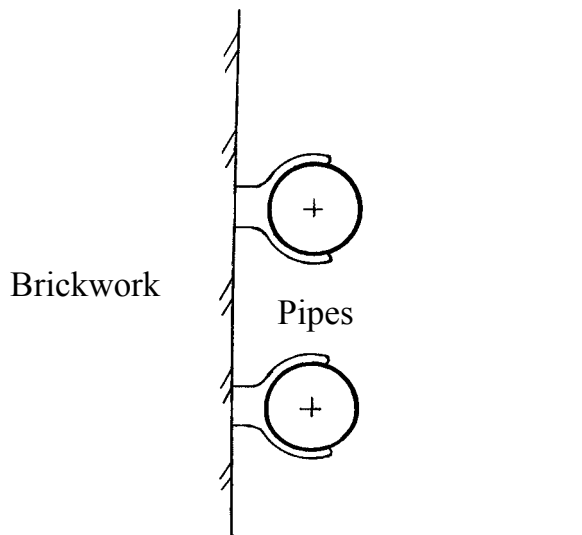

Fig. 3
13. Complete Fig. 3 to show a method of boxing in existing pipework.